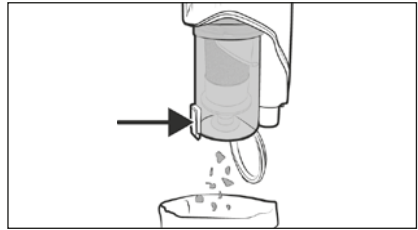

Fig. 16
- 1) Hold the dust container 6 in a waste bin and press the release button for the dirt container lid 7. The dust container lid 8 opens and the contents are emptied into the waste bin (see Fig. 16). Then close the dust container lid 8.